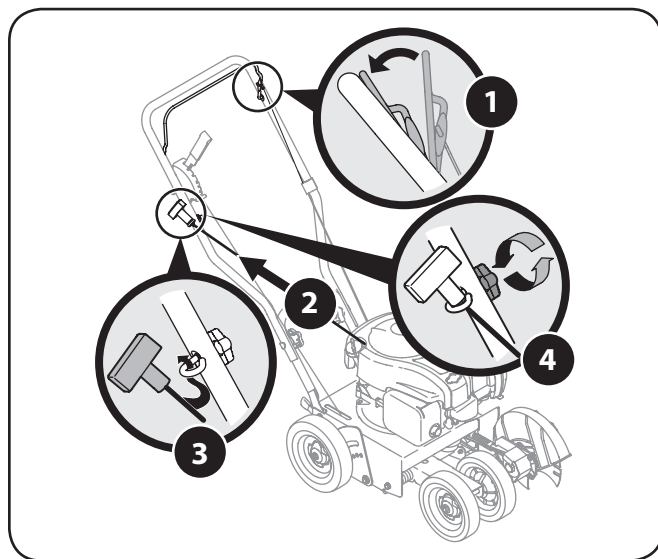

Figure 3-4
1. Locate the rope guide and wing knob found in the manual bag. Using the wing knob, secure but do not tighten the rope guide to the right side of the upper handle as shown in Figure 3-4.
NOTE: The starter rope will not pull out of the engine unless the blade control (refer to Figure 3-4) is depressed against the upper handle.